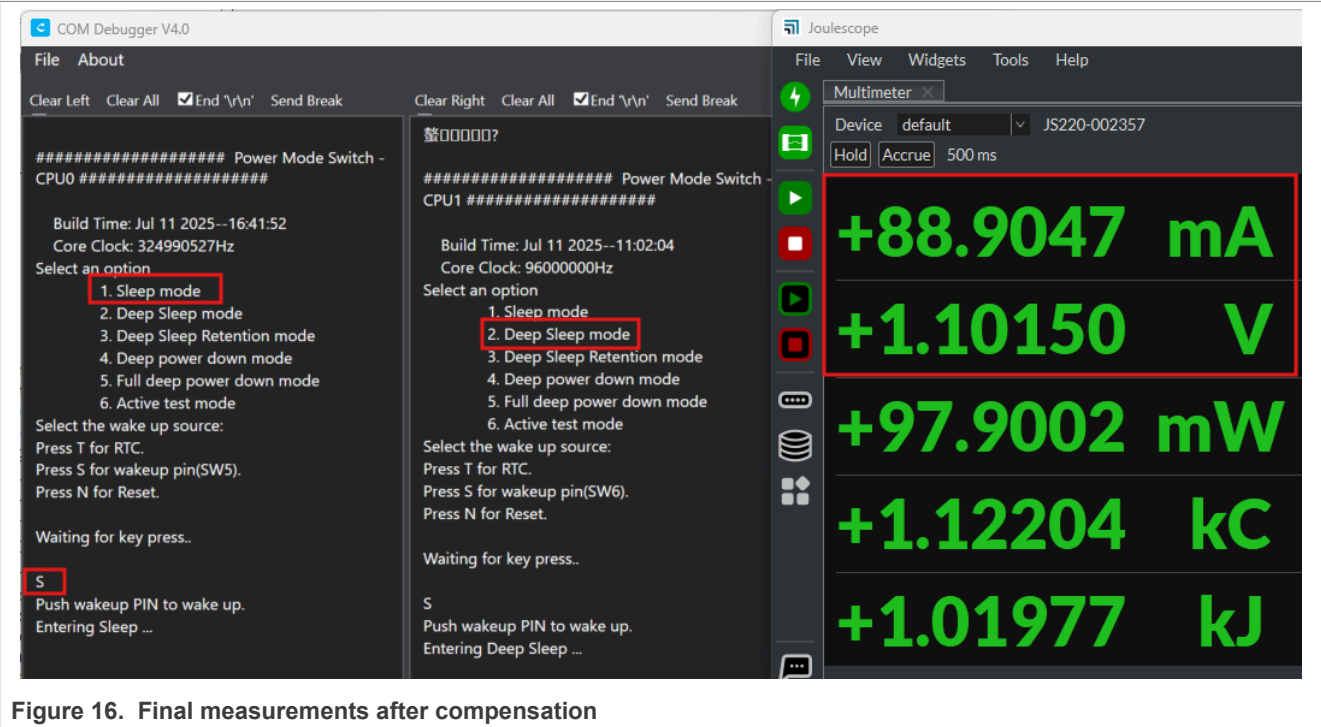

Figure 16. Final measurements after compensation
14. Repeat step List item to perform voltage compensation. The updated power consumption of **VDD2** appears as shown in Figure 16. Power consumption data obtained from actual measurements can differ from the typical values listed in the data sheet. This difference primarily results from factors, such as measurement